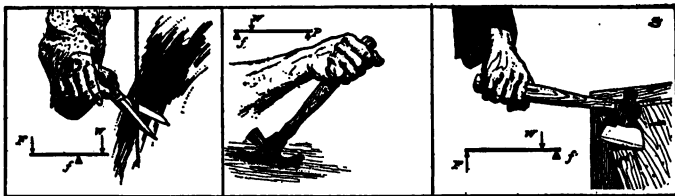

FIG. 215. Three examples of levers.
**Exercise 7.** Decide whether the following tools are levers of the first, second, or third class: nutcracker, a pair of scissors, a wheelbarrow, the oar of a boat, a hammer as it is used in pulling a nail, a hatchet as it is used in pulling a nail, a pair of tongs, the forearm of a man (Fig. 215), a pitchfork as it is used in pitching hay.